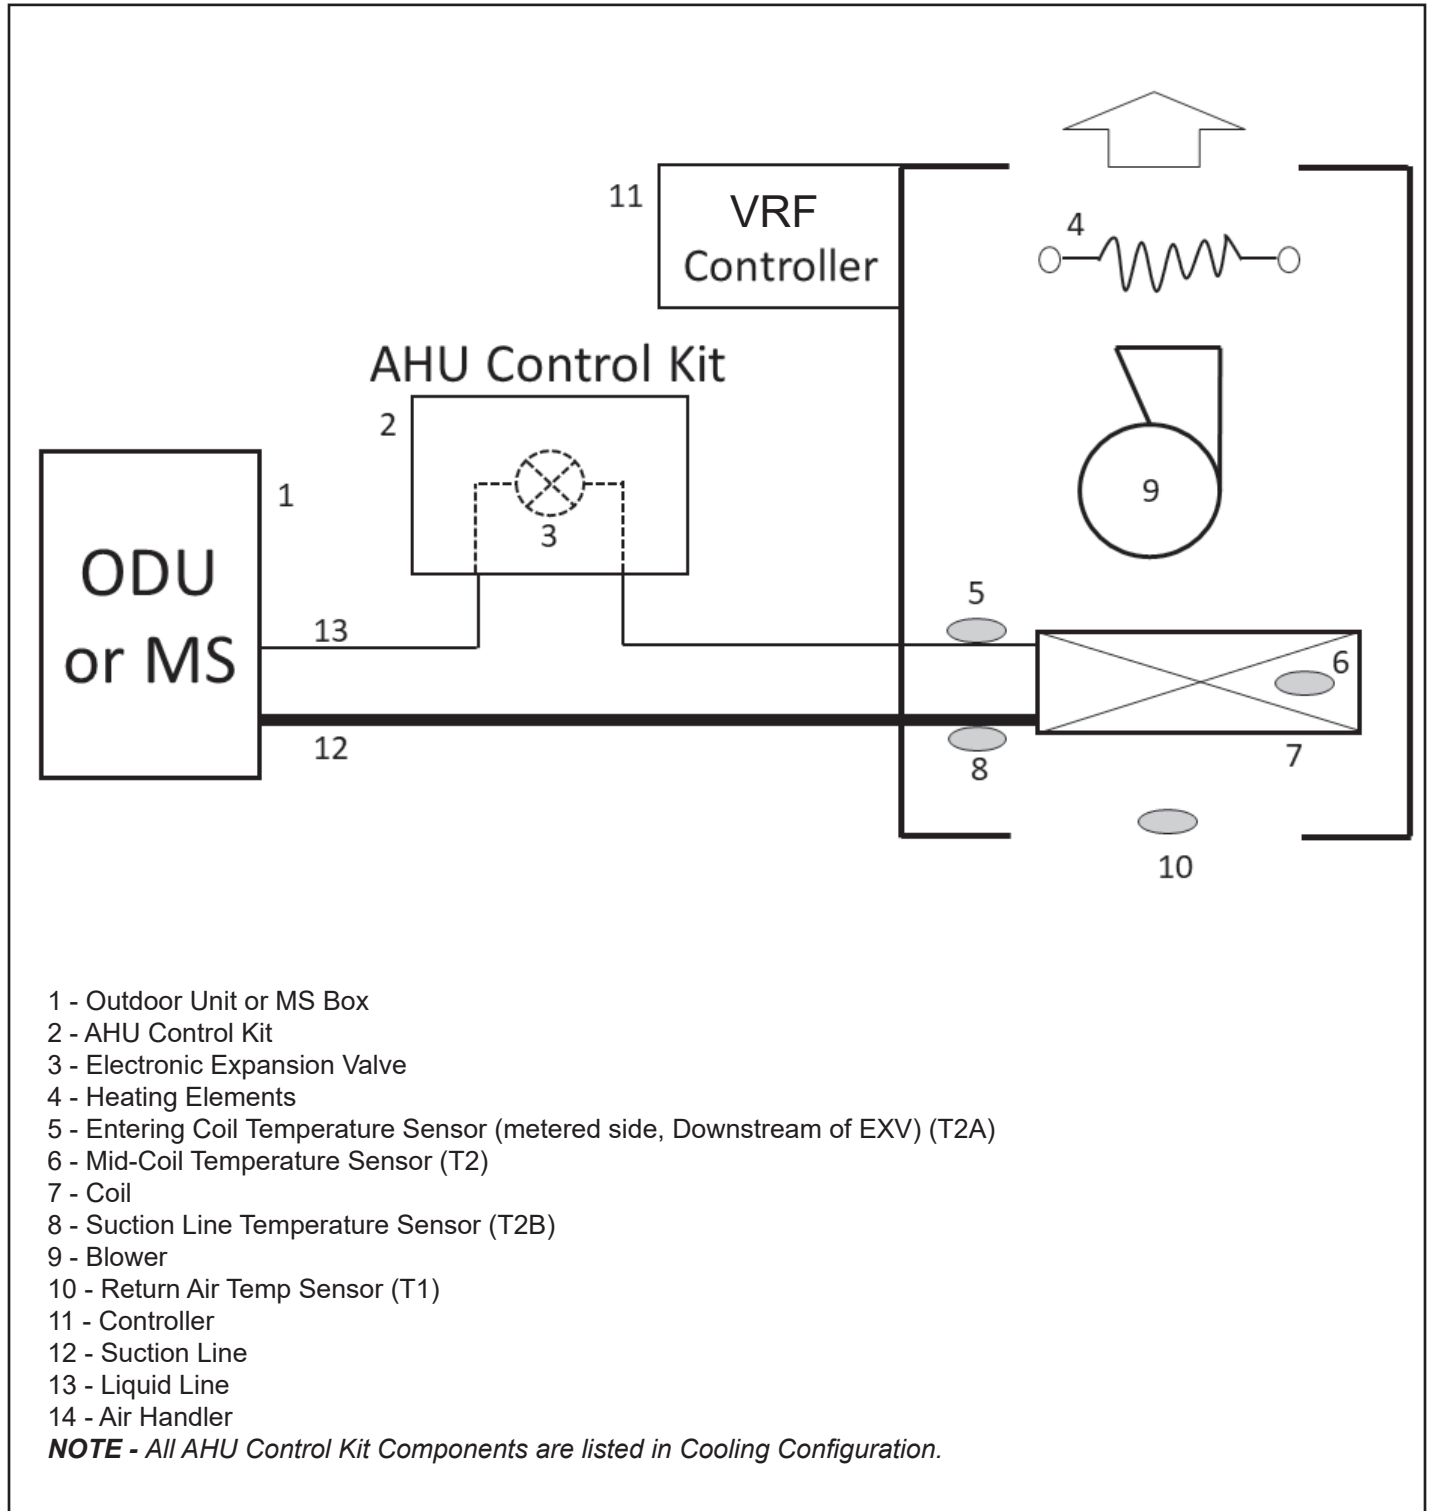

Figure 1. Electric Air Handler with Electric Auxiliary Heat & AHU Control Kit
Throttling devices (TXV, orifice, piston and cap tube, etc.) in the indoor unit shall be removed, additional modifications may be needed. Only Lennox VRF wired local controller V0STAT51P-3 is allowed with the AHU Control Kit. Two typical application layouts are shown in Figure 1 and Figure 2.
- Throttling devices (TXV, orifice, piston and cap tube, etc.) in the indoor unit shall be removed, additional modifications may be needed. Only Lennox VRF wired local controller V0STAT51P-3 is allowed with the AHU Control Kit. Two typical application layouts are shown in Figure 1 and Figure 2.